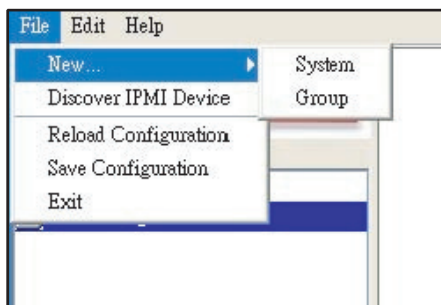
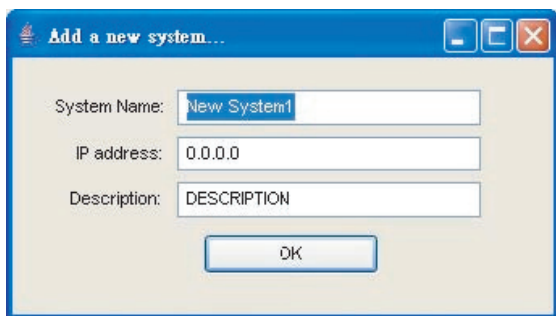

Figure 2-3
Figure 2-4
Step 1. As shown in Figure 2-3, click "File>New...>System" to add a new system to IPMI View. An "Add a new system..." dialog box will pop up as shown in Figure 2-4.
Step 2. As shown in Figure 2-4, in the “Add a new system” dialog box, type in the desired System Name for the managed system and the correct IP address, as well as a description. Then click OK.
In Figure 2-3, click menu “File>New...>Group” to add a new group to IPMI View. An “Add a new group” dialog will pop up as shown in Figure 2-5. In the “Add a new group” dialog box, type in the desired Group Name and description. Then click OK.